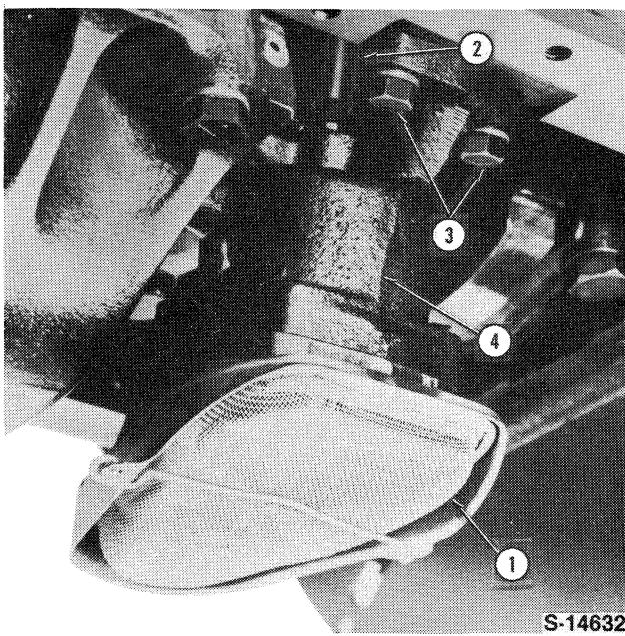

Figure 33
2. Remove the oil pump with the filter screen, Figure 33. Withdraw the intermediate shaft.